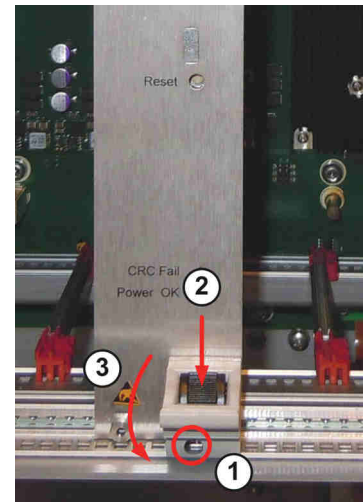

Fig. 7.27 Handle
- 3 Using tools 1/4 or tool 9, loosen the screws in the upper and lower handle, marked with 1 in Fig. 7.27 \(p. 129\) - these two screws are fixing the module to the frame.
Release the two handles (upper handle and lower handle) by pushing the black button into the handle - marked as "2" in Fig. 7.27 \(p. 129\). While doing this simultaneously on the two handles, move the upper handle upwards and the lower handle downwards ("3"). This will pull the module out of the connector.